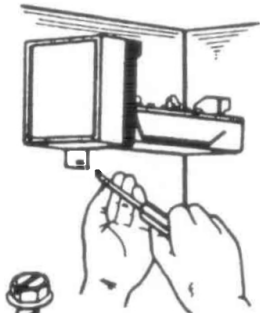
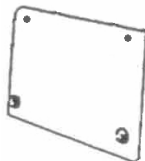

Figure 4
Figure 5
4. Mount replacement icemaker, using old mounting hardware and mounting plate if required. (see Figure 4) An additional mounting plate with screws (see Figure 5) is provided if needed depending on the model.